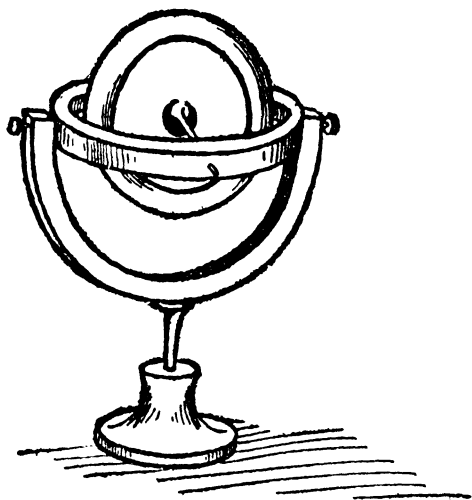

FIG. 17.—A Gyrostat with "three degrees of freedom."
Foucault mounted a spinning top so that it could move in any direction, or, to look at it another way, so that its support could be moved in any direction without moving it. Figure 17 shows the kind of thing I mean. There we see the axle of the wheel is mounted inside a ring, the ring inside a fork, and the fork in a socket. All the joints are made to work as freely as possible, and all the parts are made to balance exactly. Thus you could take hold of the wheel, and the slightest touch would make it move in any direction you like. Not only will it turn round upon its axle, but you can move its axle so that it points in any way desired. Or, on the other hand, you might hold the apparatus by the socket, and move it about freely without necessarily altering the direction of the axle. That is called a Gyrostat, with three degrees of freedom—for (1), it can